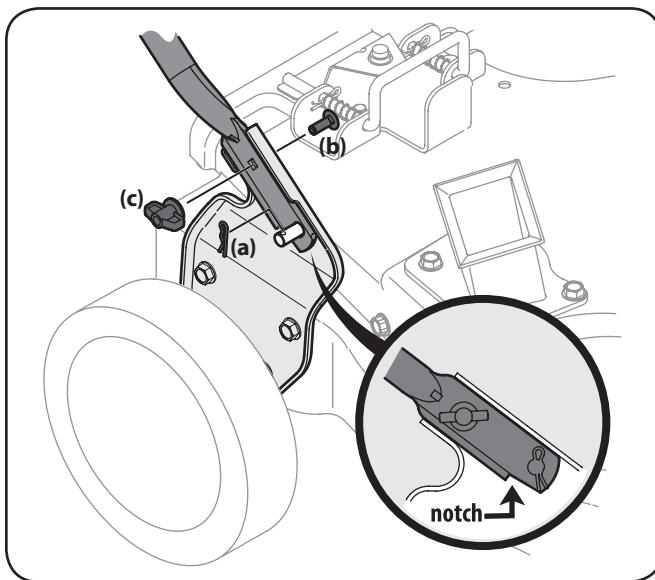

Figure 3-1
- a. Place the bottom holes in lower handle over the pins on the handle brackets with notch in handle pointing downwards and secure with hairpin clips (a). See Figure 3-1.
- b. Insert carriage screws (b) through upper hole in lower handle from the inside and secure with wing nuts (c). See Figure 3-1.